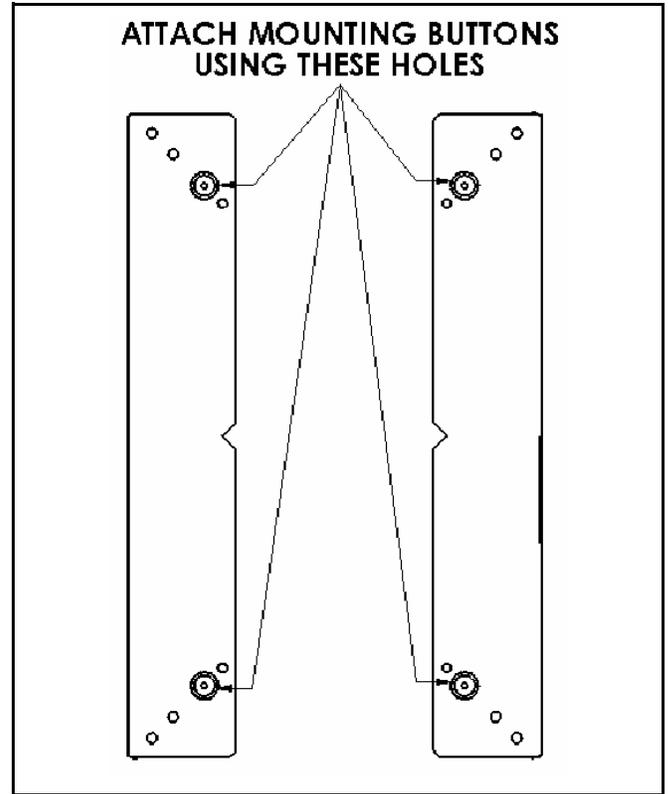
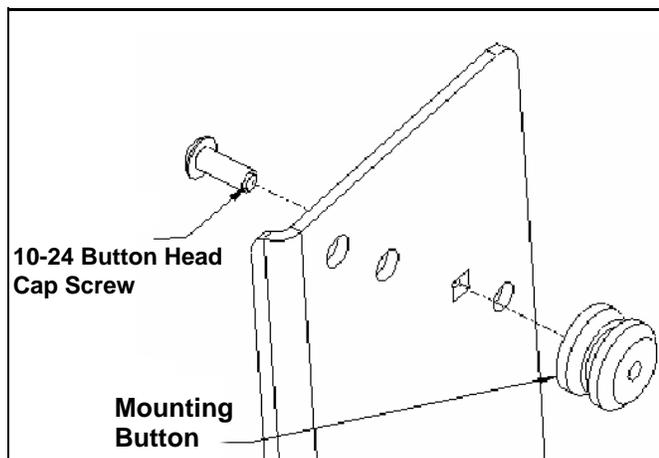

Figure 6: Mounting Button Location
Figure 5: Mounting Button Attachment
1. Using a 10-24 button head cap screw inserted from the backside of the bracket (see figure 5), secure the mounting button with the chamfered hole of mounting button (larger surface) facing the bracket (see figure 6).